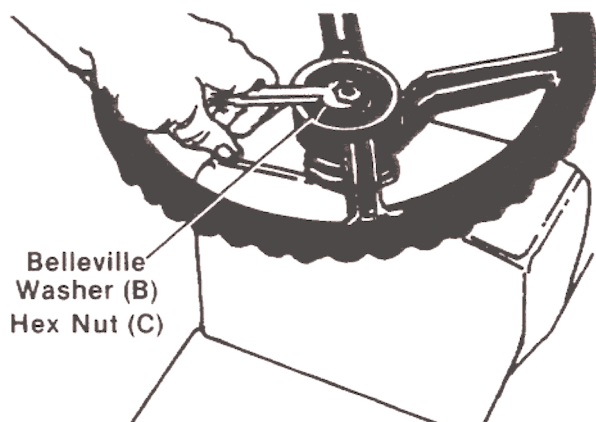

FIGURE 12.
4. Secure with belleville washer (B) (cupped side against the steering wheel) and hex nut (C). — See figure 12.
5. Press the steering wheel cap (A) on the steering wheel by hand.